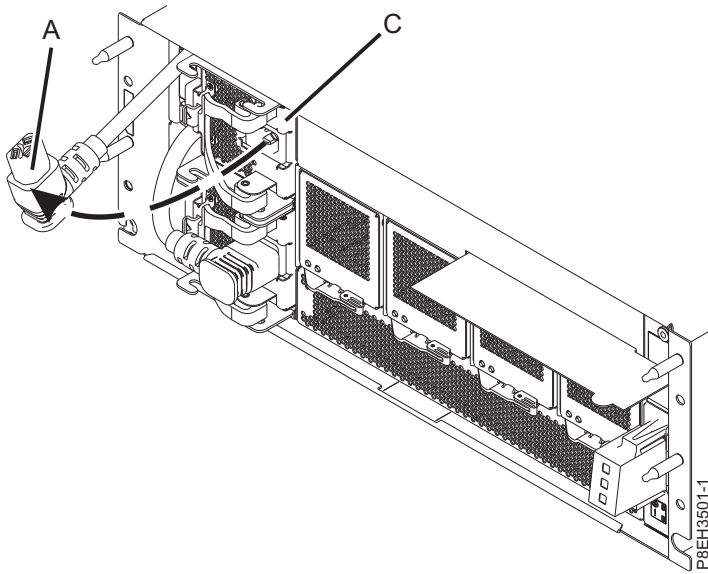

Figure 4. Disconnecting the power cord from the power supply in the EMX0 PCIe3 expansion drawer
2. Disconnect the power cord from the power supply by pulling the power cord (A) out of the power supply (C) in the direction shown in Figure 4 on page 4.